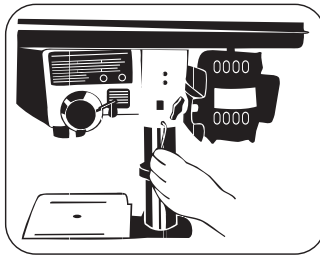

FIGURE 8.5
- Tighten the two sets of bolts found on the right side of the Spindle Head Set using the Allen Tool **G** (Figure 8.5).